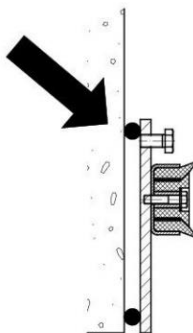

Fig. 6
- With the set screws at the transverse seal (see Fig. 6) the required compression of the seal against the gate can be adjusted. The adjustment shall be in a way that an optimal compression of the sealing lips is reached.